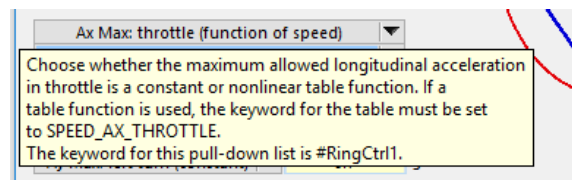

Figure 40. Right-click to see the root keyword for a configurable function.
When a Configurable Function is used, it is necessary to specify the keyword associated with the acceleration limit (SPEED\_AX\_THROTTLE, SPEED\_AX\_BRAKE, SPEED\_AY\_LEFT, or SPEED\_AY\_RIGHT). Right-click on the drop-down control to see the keyword associated with that control. For example, right-click on the throttle pull-down control to see that the keyword is SPEED\_AX\_THROTTLE (Figure 40).
- ① This comment field identifies the variable whose value is calculated by the Configurable Function. This text is not sent to the VS Math Model, but is helpful for documenting the contents on the screen.
- ② The root keyword for the function must be set for the math model to assign the data properly to the Configurable Function. In general, Echo files are a good reference for keywords because the root keywords are written in the Echo files created for each run. In the case of the Speed Controller from Path Preview, the keyword can also be found by right-clicking on the pull-down control for the limit acceleration (Figure 40 on page 52).